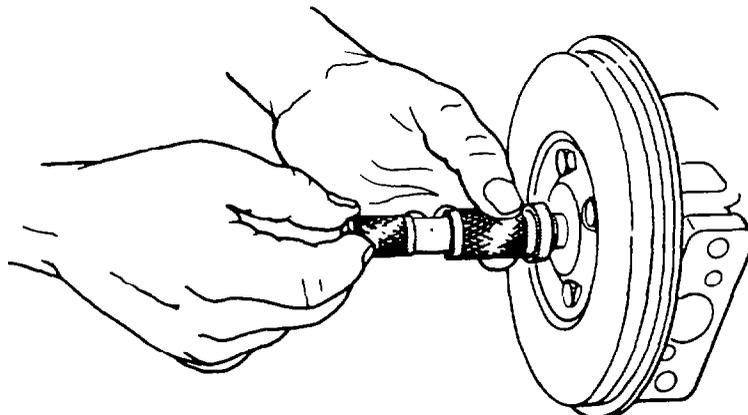

Fig. 157 — Installing Thrust Spacer
- n. Use tool J-29676 to insert the thrust spacer (item 11) into the bore of the backplate (item 7).
- o. Place the turbine wheel and centre housing in a suitable holding fixture (see fig. 157); slide the compressor wheel (item 6) onto the turbine wheel shaft as far as it will go then fit the locknut (item 4) to the shaft and tighten it finger-tight.